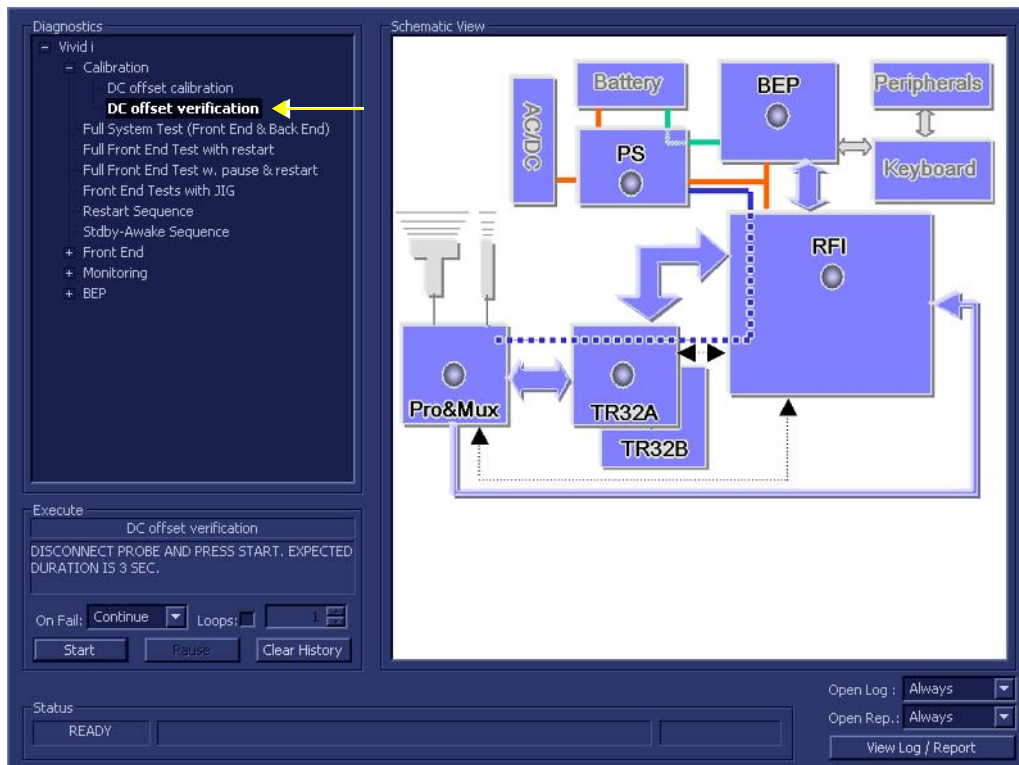

Figure 7-8 DC Offset Verification Test
- 1.) In the *Diagnostic Test* window, trackball to **DC Offset Verification** in the list of tests available for selection from the Diagnostic Test Tree (see Figure 7-8 below) and press **Set**. The DC Offset Verification name is displayed under *Execute*; the relevant system components to be tested are highlighted light blue in the Schematic View (PM, TR32 and RFI boards), as shown below: